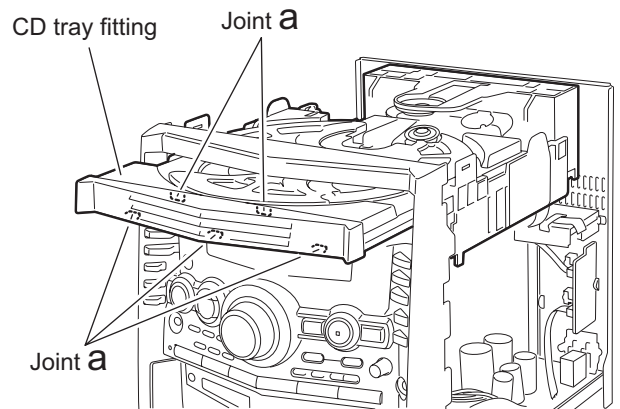

Fig.5
3.1.3 Removing the CD fitting (See Fig.5~7)